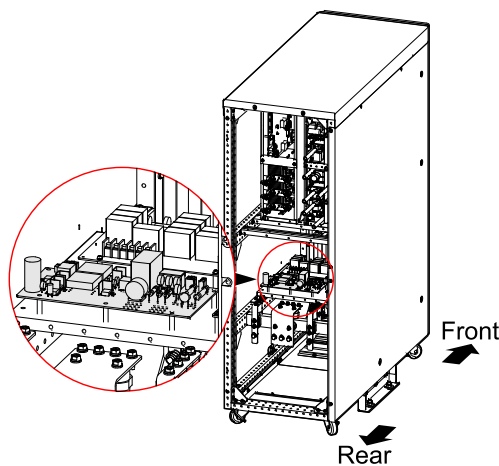
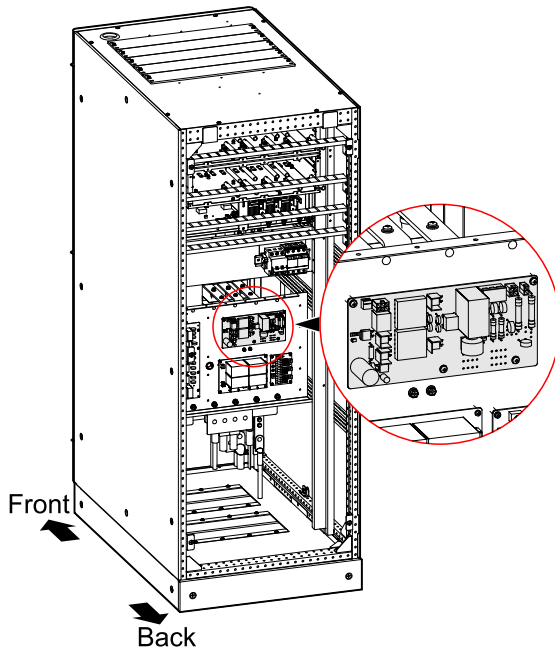

Figure3-25 Installation position of PCB for IST7-60, IST7-100, IST7-120
Figure3-26 Installation position of PCB for IST7-160, IST7-200
Step 1 Take out the PCB of battery release, then install it in UPS rear with five bolts M4, installation position as shown in Figure3-25, Figure3-26.